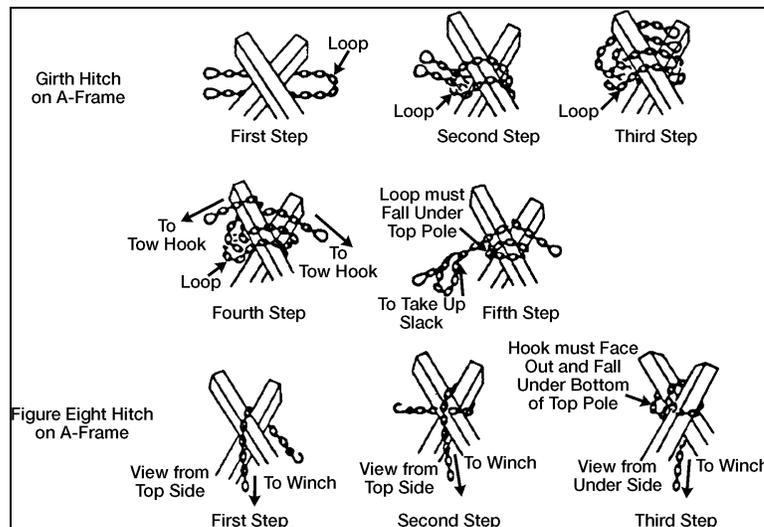
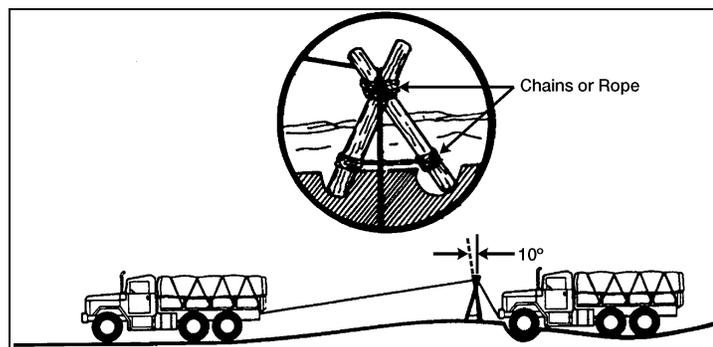

Figure 3-78a. Constructing An A-Frame With a Girth Hitch and a Figure Eight Hitch
Figure 3-78b. Recovering a Mired Vehicle Using An A-Frame
- e. Construct an A-Frame (see Figure 3-78a) to recover a mired vehicle (see Figure 3-78b).
- (1) Select two long poles with a large enough diameter to support the front end of the truck once it is raised.
- (2) Lash the poles together at the top with a figure eight hitch or girth hitch.
- (3) Dig two 10 to 12 inch deep holes 5 to 6 feet apart to hold the legs in position when power is applied.
- (4) Place the A-frame into the hole.
- (5) Lay the upper end of the A-frame against the vehicle's front.
- (6) Attach the A-frame.
- (7) Rig the winch cable for 2:1 mechanical advantage.
- (8) Secure the end of the cable to the A-frame's apex.
- (9) Wind in the winch.
- (10) Suspend the truck over the ditch or hole.